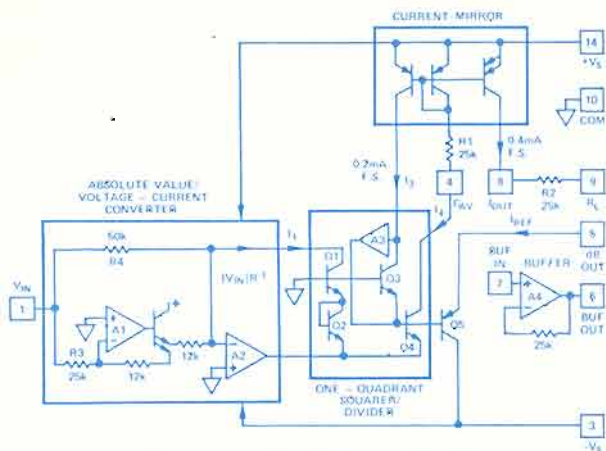

Figure 2. Simplified schematic.
Figure 2 is a simplified schematic of the AD536. In the AD536, the computations indicated in (2) are performed with currents. The four basic sections of the device are an input absolute-value voltage-to-current converter, a one-quadrant squarer-divider core, a current-mirror, and buffer-follower.